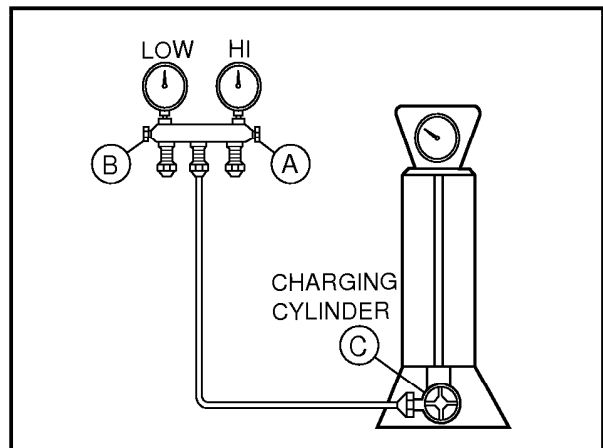

Figure 17B-Charging
- 2) Start the vacuum pump, slowly open manifold valves A and B with two full turns counterclockwise and leave the valves open. The vacuum pump is now pulling through valves A and B up to valve C (figure 17B) by means of the manifold and entire system.
- 4) Remove the hose from the vacuum pump and place it on the charging cylinder. See figure 17B.
- 2) Connect the charging cylinder as shown in figure 17B.